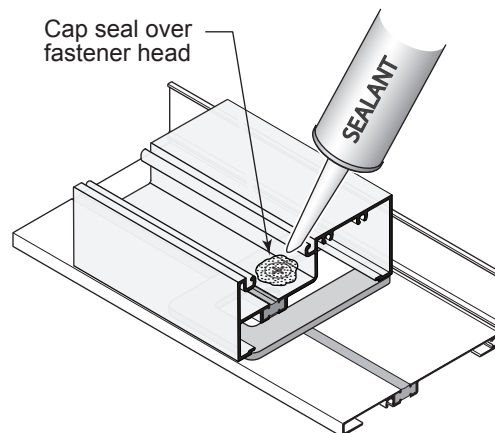

Fig. 40.4
- L. Cap seal all fastener heads. See **Fig. 40.4**.